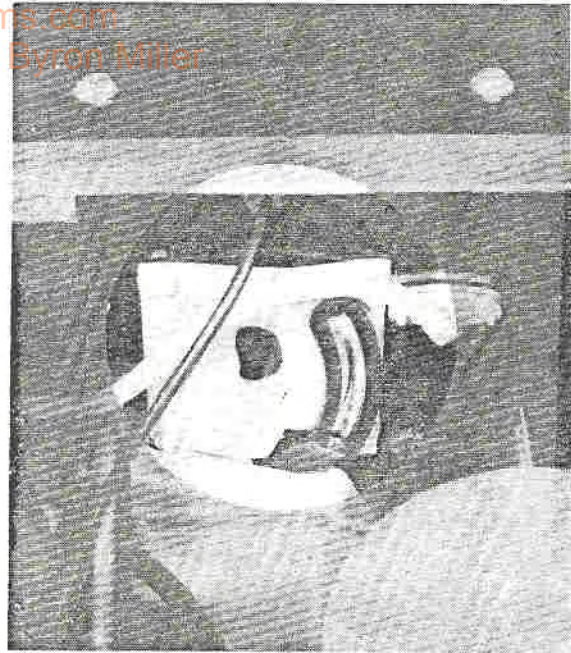

Fig. 12
1. Stationary starter pulley breakage may result from the starter access boot contacting the pulley causing only partial contact of roll pin to pulley. To correct, ascertain that the boot is installed on engine side of the fire wall and that boot is not contacting the stationary pulley (Figure 12).